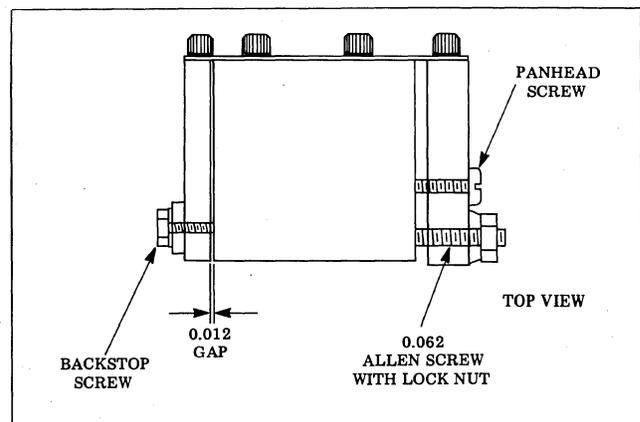

Figure 5-1. Actuator Adjustment Points
1. Swing the transport out. With the actuator de-energized, check the gap (see Figure 5-1) with shim stock or 0.012-inch feeler gauge. Adjust backstop screw to obtain this setting (3/16 wrench).